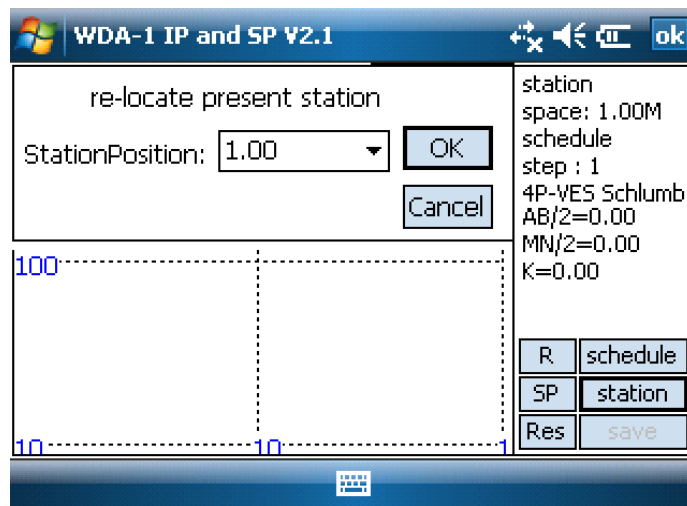

Fig.5-8
- For input of “Station position” before measure another survey point, click “Station” button (at the right bottom of the screen, and click the software keyboard to input position of the next survey point (Fig.5-8).